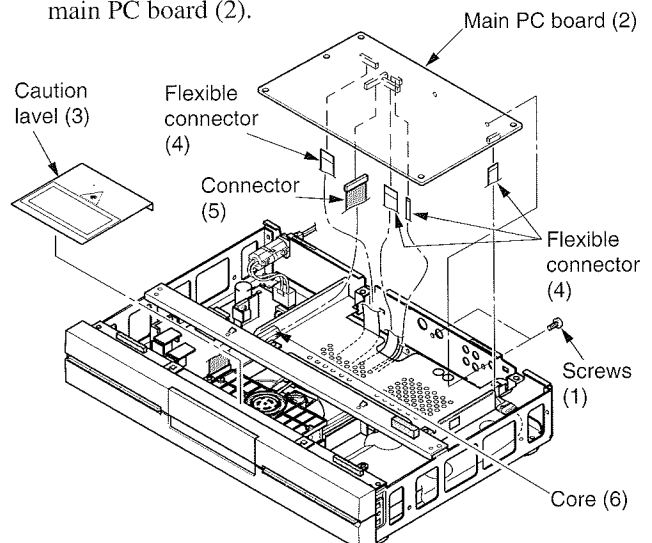

Fig. 2-7
- Before removing the main PC board, be sure to short-circuit the laser diode output land. After replacing the PC board, open the land after inserting the flexible connector (3). (Refer to Fig. 2-7.)
1. Remove the top cover (Refer to item 1-1-1).
2. Remove the upper shield plate. (Refer to item 1-1-2.)
3. Remove two screws (1), and take out the main PC board (2). (Refer to Fig. 2-7.)
4. Remove the caution label (3).
5. Remove the flexible connector (4) and the connector (5) from the main PC board (2). Then, remove the main PC board (2).